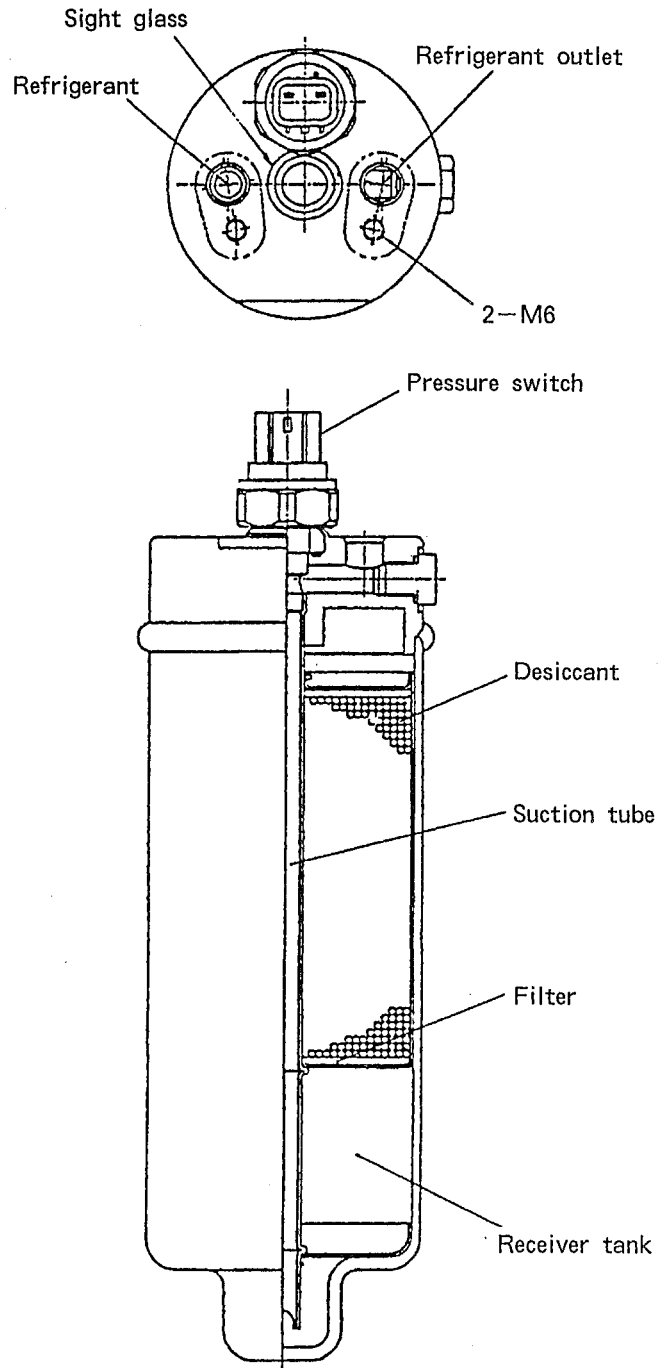

Fig. 11 Receiver dryer
(5) Receiver dryer (See Fig. 11.)